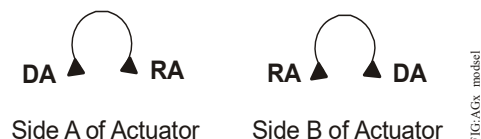

Figure 22: Mode selection
Actuators have an external mode selection switch to reverse control logic. The switch is accessible from both A and B sides of the actuator as illustrated in Figure 22. Actuators are delivered in Direct Acting (DA) mode and can be switched by the user to Reverse Acting (RA) mode.